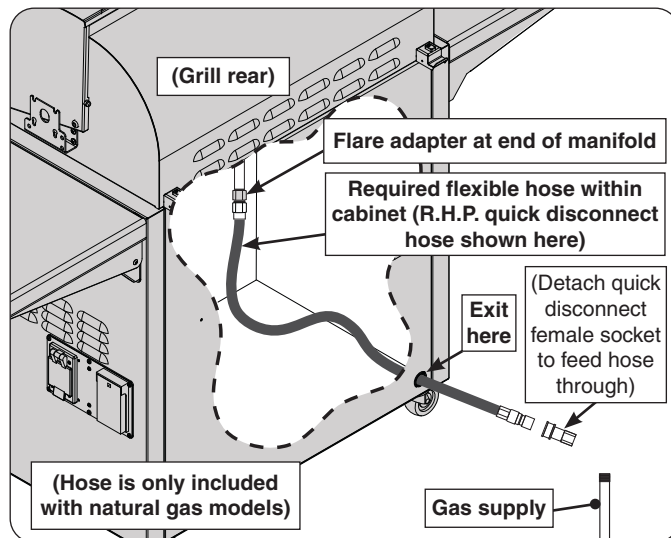

Fig. 21-1 Flexible hose assembly detail
2. **Household propane only:** A regulator hose assembly designed for L.P. cylinders comes pre-installed to the unit valve manifold. First remove this assembly from the flare adapter (at end of manifold), and then install a quick disconnect hose or similar (purchased separately) to the adapter. (An R.H.P. quick disconnect hose is recommended - see third bullet above.) Use a pipe joint compound resistant to all gasses on all NPT pipe fittings **except flare fittings**. Reference Fig. 21-1. Then proceed to step 3.
3. Route the quick disconnect hose (or similar) out of the hole in the rear bottom right of the cabinet, and to the gas supply (see Fig. 21-1).